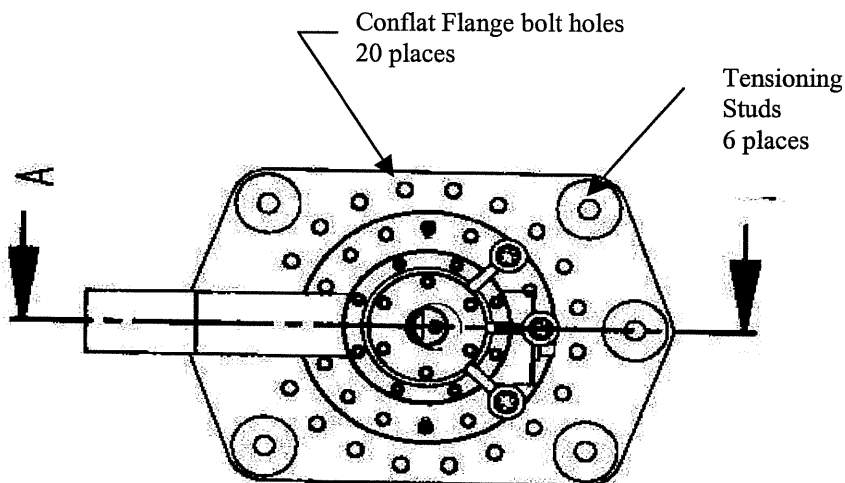

Figure 5.6. 20-hole conflat bolt pattern is bisected by center tensioning studs.
- 5.6** Clean test facility Conflat flange knife edge and LBNL-provided copper gasket. Install gasket on Conflat flange. Align rotatable conflat flange to orientation shown on Figure 5.6.